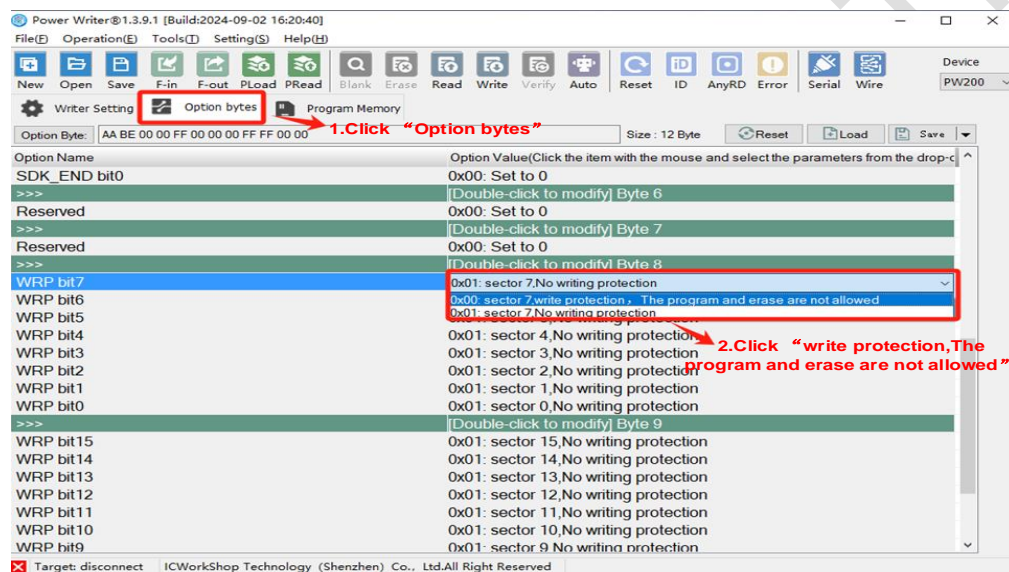
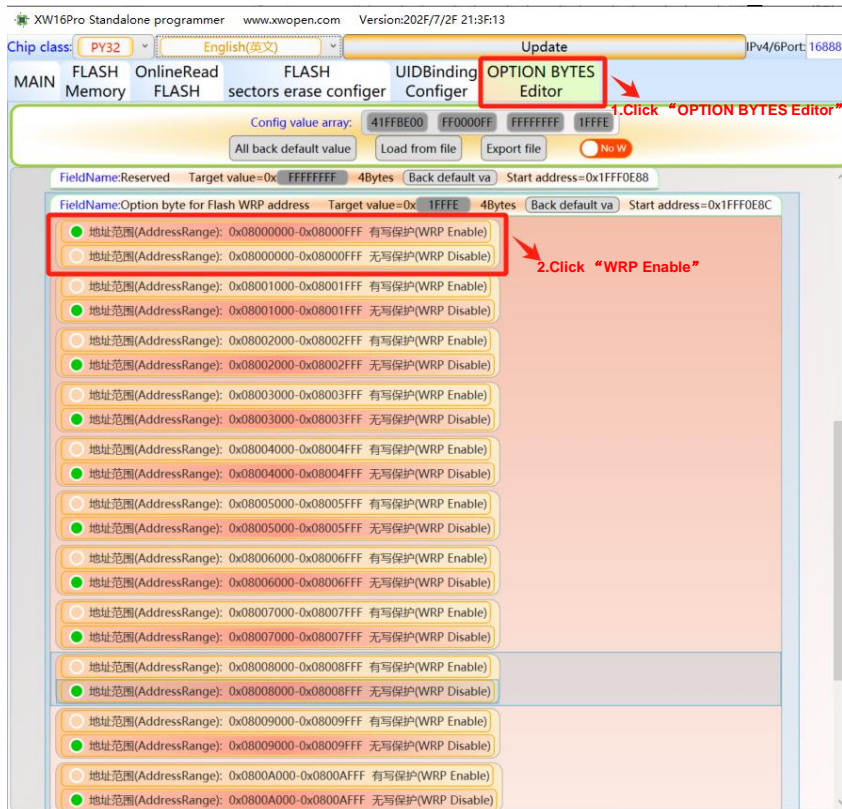

Figure 5-1 Power Write Operation Option Write Protection
Figure 5-2 XW operation Option write protection
- It is recommended that the customer program enables write protection, which is set in Option, as shown in Figure 5-1 and Figure 5-2.